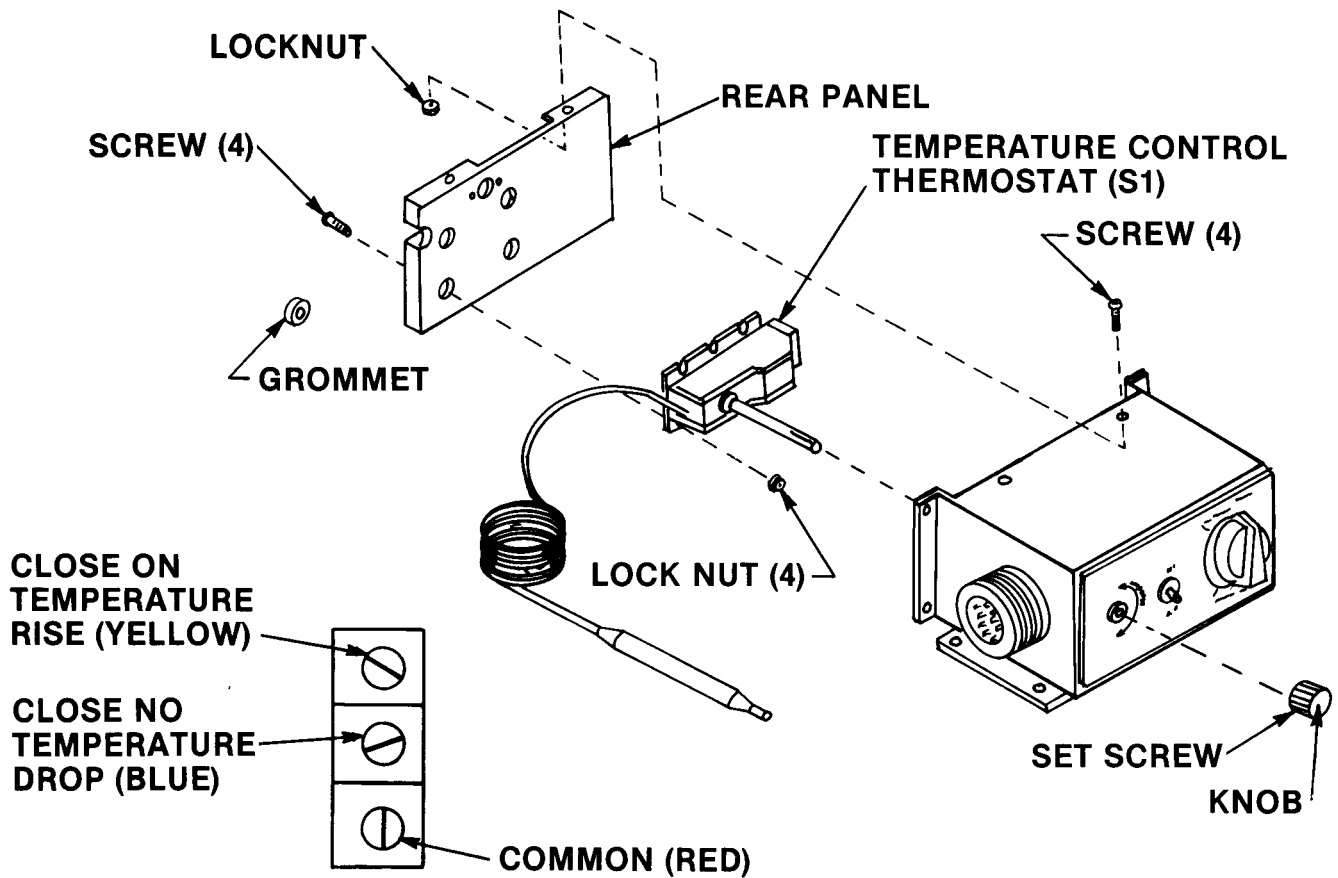

Figure 4-42. Temperature Control Thermostat (S1)
(2) Carefully feed sensing bulb and capillary up and into conditioned air intake compartment. (See fig. 4-42.)
(3) Using screwdriver, secure remote sensing bulb with clamp, flat washer, lockwasher, and screw.
(4) Install grommet in bulkhead.
(5) Coil excess capillary tubing in recess behind control panel.
(6) Connect P8 plug and harness to receptacle J8 on the control panel.